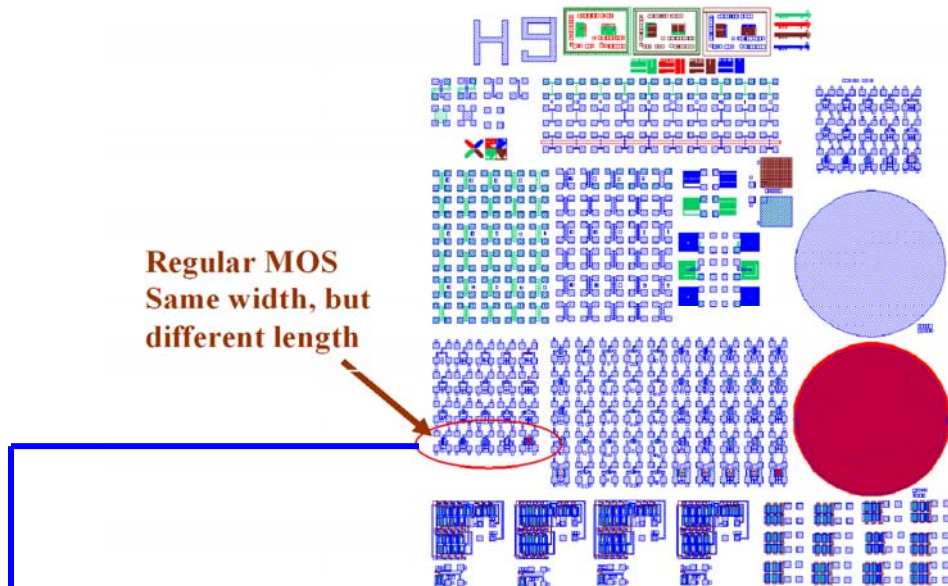
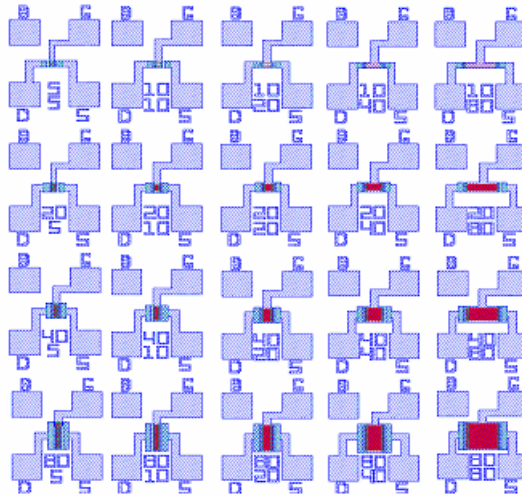

Figure 20: Regular MOS in a cell
Figure 22: Oversize view of Regular MOS from a cell.
1. To calculate effective channel length, locate four transistors in a cell, use the regular MOS transistors. All four transistors need to be the same widths but different lengths, see Figure 20 and 21. See Figure 22 for an oversize view of the widths and lengths of the Regular MOS transistors.